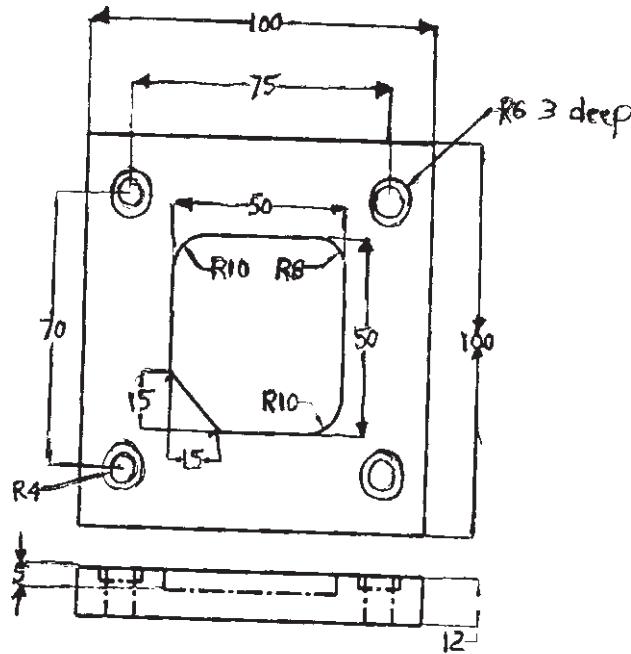

Fig. 4
- Q6) a)** Prepare the part program for component shown in Fig.4 to be machined on CNC machining center. Assume Xo/Yo at the center of part. [12]